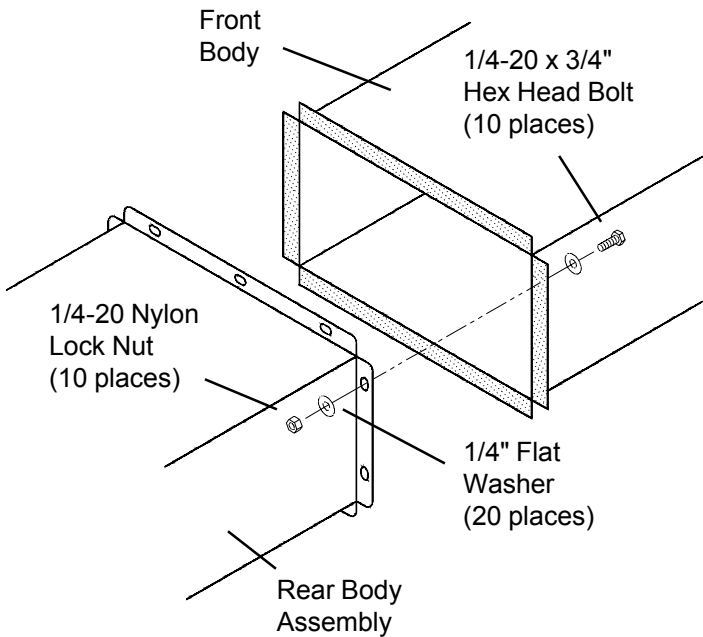

Figure 6. Rear Body Assembly to Front Body fastening
5. Fasten the Front Body to the Rear Body Assembly (see Figure 6.). It will be necessary to poke the bolts through the adhered Weatherstripping.